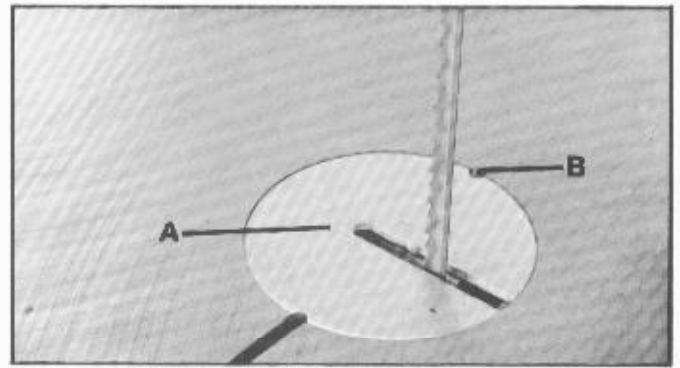

Fig. 11
Place table insert (A) Fig. 11, in the hole provided in the table, making sure the pin (B) in the table engages one of the indents in the table insert.